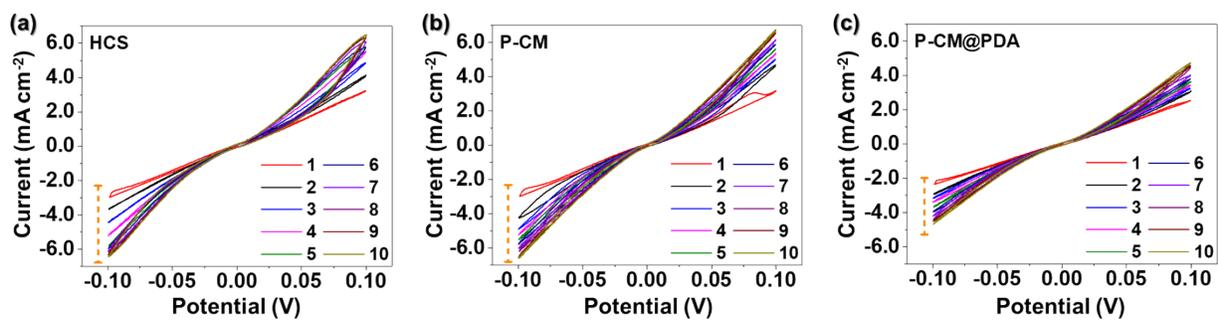

Figure S4 Cyclic voltammetry (CV) curves of symmetric cells using (a) HCS, (b) P-CM, and (c) PCM@PDA electrodes recorded at scan rates from 1 to 10 mV s⁻¹.
- **Figure S4** Cyclic voltammetry (CV) curves of symmetric cells using (a) HCS, (b) P-CM, and (c) PCM@PDA electrodes recorded at scan rates from 1 to 10 mV s⁻¹.